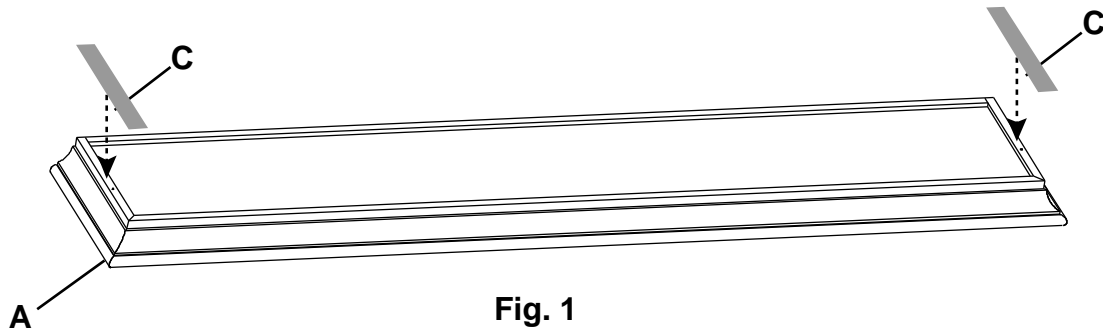

Fig. 1
1. Peel off the backings on the Velvet Pads (C) and apply them to the bottom of the Top Assembly (A). See Figure 1.